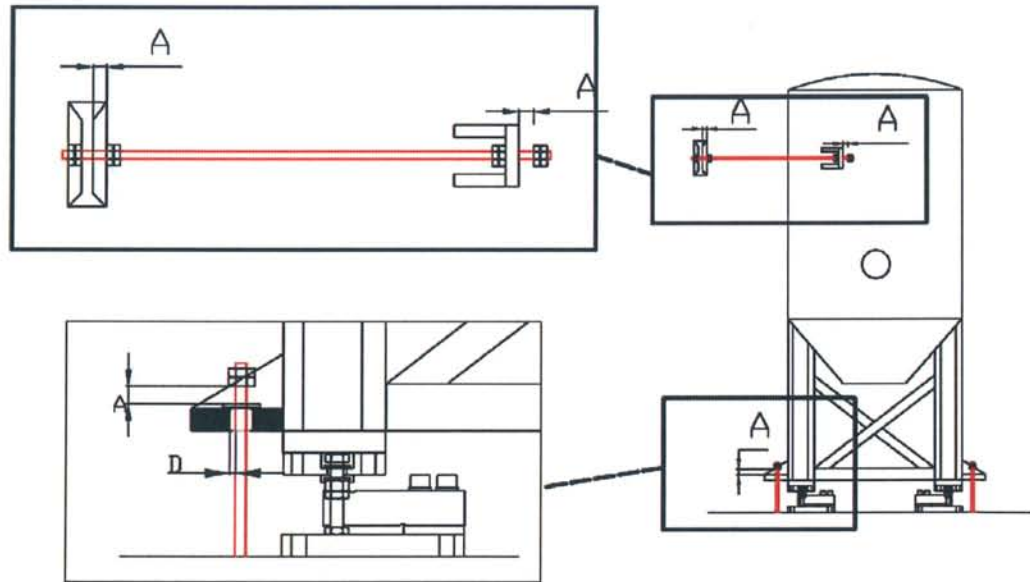

Fig.4-a: Vertical and horizontal anchor system
Fig. 4-a shows examples of vertical anchors or lift-off prevention systems, using restraint rods to limit tank's movement but allowing some freedom for the proper weighing. Rods must be left with a clearance (A) to permit a minimum vertical or horizontal movement depending on the case, but